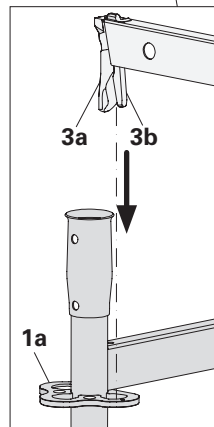

Fig. A1.01a
3. Attach the er head (3a) and wedge (3b) of the horizontal ledgers (3) to the rosettes (1a). (Fig. A1.01a)